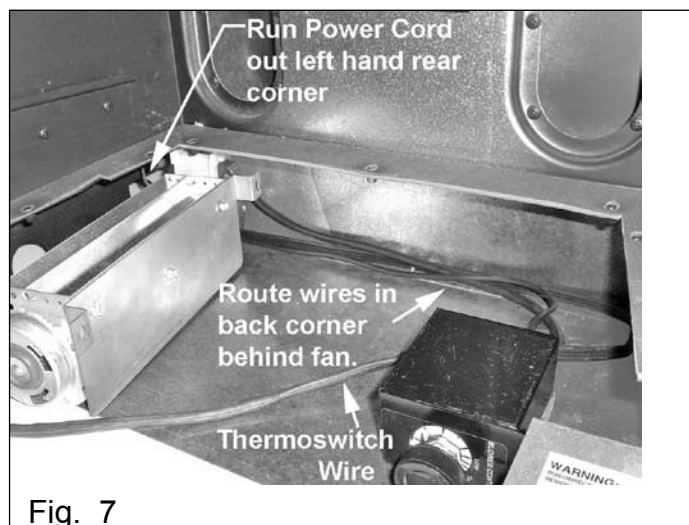

Fig. 7
- Feed the power cord out through the opening in the rear left corner of the heater. Tuck wires in back corner so they will be behind the blower unit when installed (see Fig. 7).